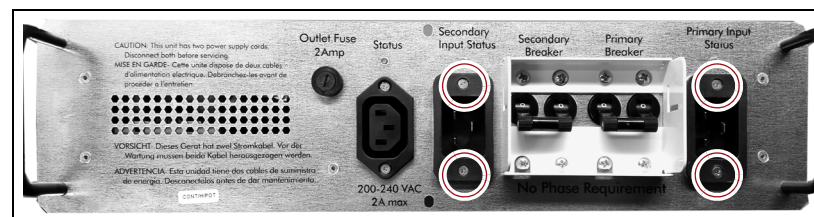

Figure 302 Remove the screws securing the input plugs to the AC power module (Dual AC2 shown).
6. Using a #2 Phillips screwdriver, remove the two screws securing each of the two input plugs to the dual AC module (circled in Figure 302).